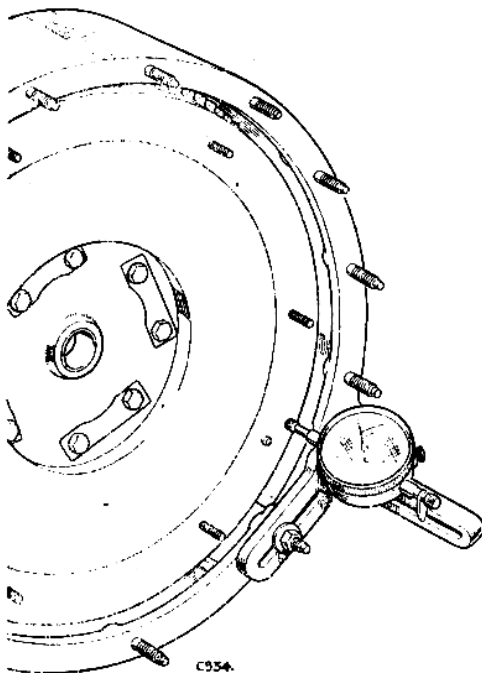

Fig. A-17—Checking run-out on flywheel face
3. Check the run-out on the flywheel face as illustrated by Fig. A-17. The run-out must not exceed .005 in. (0,12 mm) at outer edge of face.